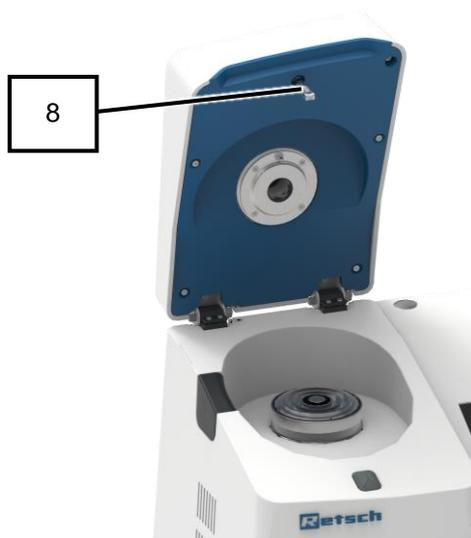

Fig. 63: Locking pin
5. Check the rollers of the locking pin (8) for smooth movement (Fig. 63).
6. If necessary, oil the rollers of the locking pin (8) with sewing machine oil.
7. Switch on the device with the main switch (16) at the rear of the device.
- ➔ The touch display (6) is activated and the background of the control dial (7) briefly lights up in blue.
8. Close the device hood (2) by hand and hold it in closed position for approx. 2 seconds. Pay attention to the acoustic signals.
- ➔ The device hood (2) is locked and held closed by the locking pin (8).
- ➔ Locking pin (8) is checked and oiled if necessary.